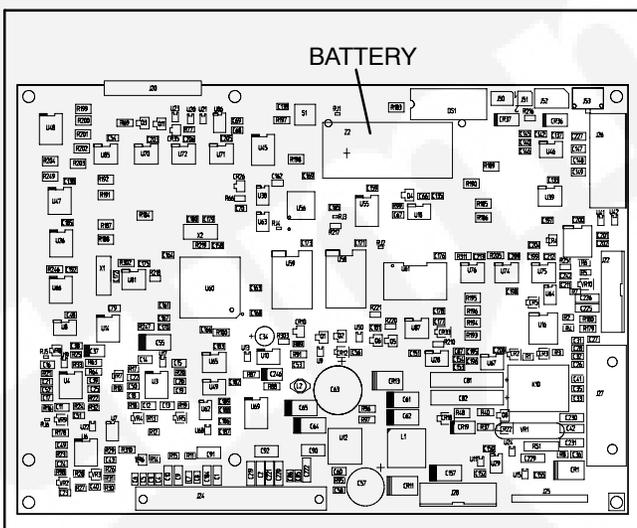

FIGURE 3-2. LEVEL 1 DIGITAL MODULE
- b. Replace the batteries (3V lithium) in the Digital Module every two years (see Figures 3-2 and 3-3). Figures 2-39 through 2-42 show where the Digital Module is located on the transfer switch.